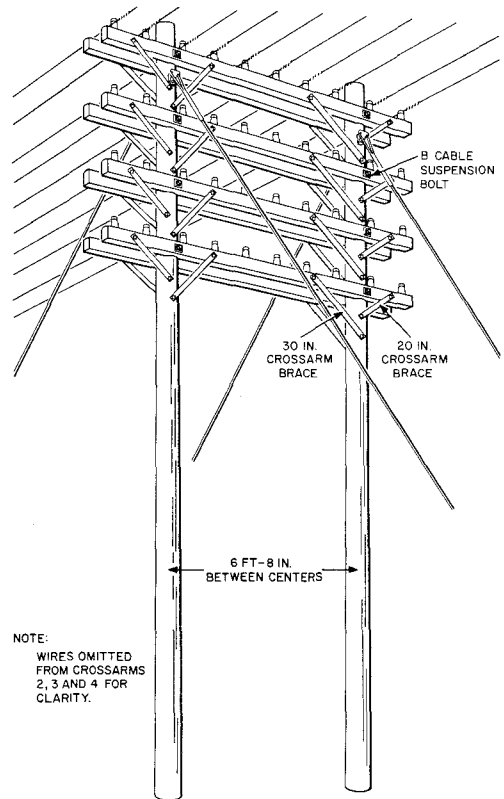

Fig. 9—H Fixture Head Guyed
3.05 A typical installation of a head-guyed H Fixture is shown in Fig. 9. The details of placing the crossarms and the details of the guying are covered in Section 621-315-204 and the 621-400 Subdivision.